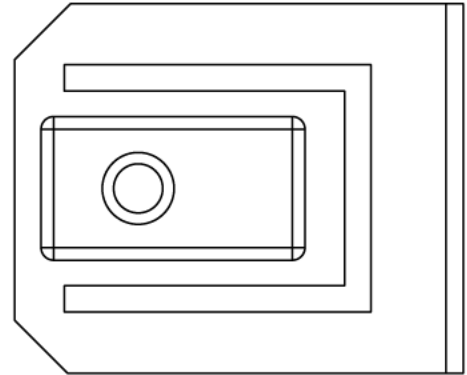

Figure 2-4. Service Switch
2. Pull the SERVICE button out to the SERVICE position (*refer to Figure 2-4*). The SERVICE switch is located in the upper right-hand corner of the cabinet.
2. Pull the SERVICE button out to the SERVICE position (*refer to Figure 2-4*).